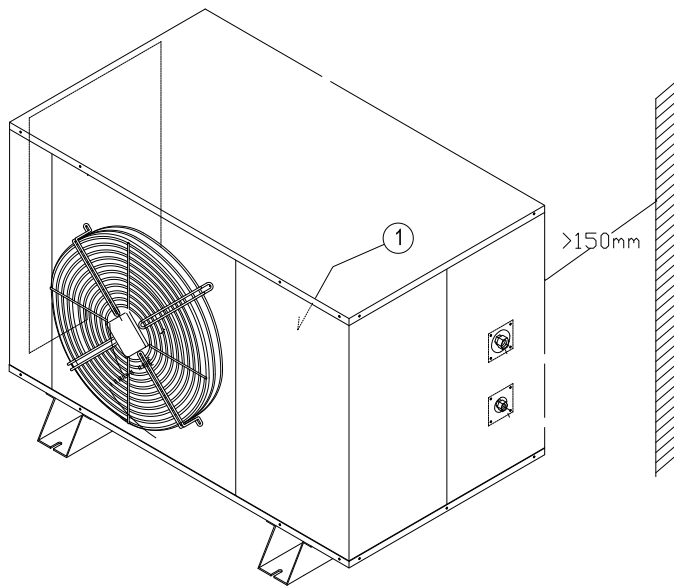

Fig. 1
CAUTION: The valves (1) and (2) in FIG.1 are shipped inside **the condensing unit's electrical panel cover (3)**, whilst the electrical panel for installation on the cold room is packed in the condensing unit (4). To gain access to the valves, remove the electrical panel cover, whilst to gain access to the electrical panel for installation on the cold room remove the **ventilation panels**. **Never remove the condensing unit's upper panel for this operation!**
The condensing unit must be installed on a flat surface (supporting base) either outdoors or indoors, provided that if indoors sufficient ventilation is guaranteed. The grille side must be positioned at least 150 mm from the wall or from any obstacles, to allow an appropriate air intake as illustrated in FIG.1.